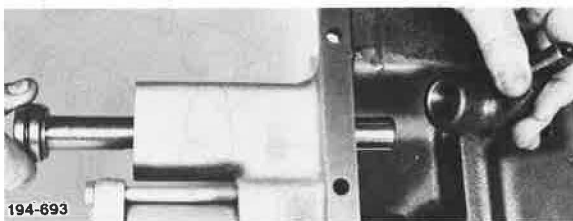

Figure 151. Removing Shift Rail and Shifter
5. Slide reverse shift rail rearward out of cover, and, as it moves, remove reverse shifter through bottom opening. See Figure 151.